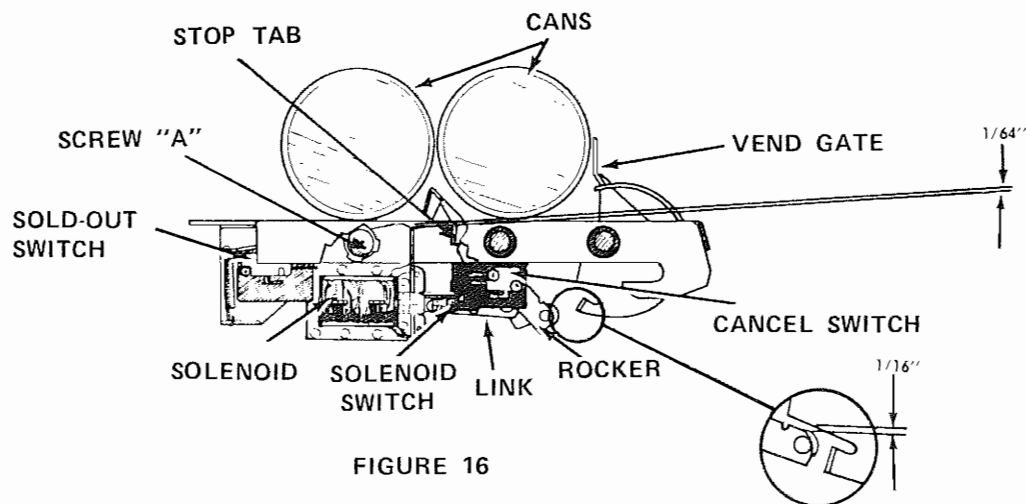

FIGURE 16
A. SOLD OUT SWITCHES (See figure 16)
B. VEND SOLENOID (See figure 16)